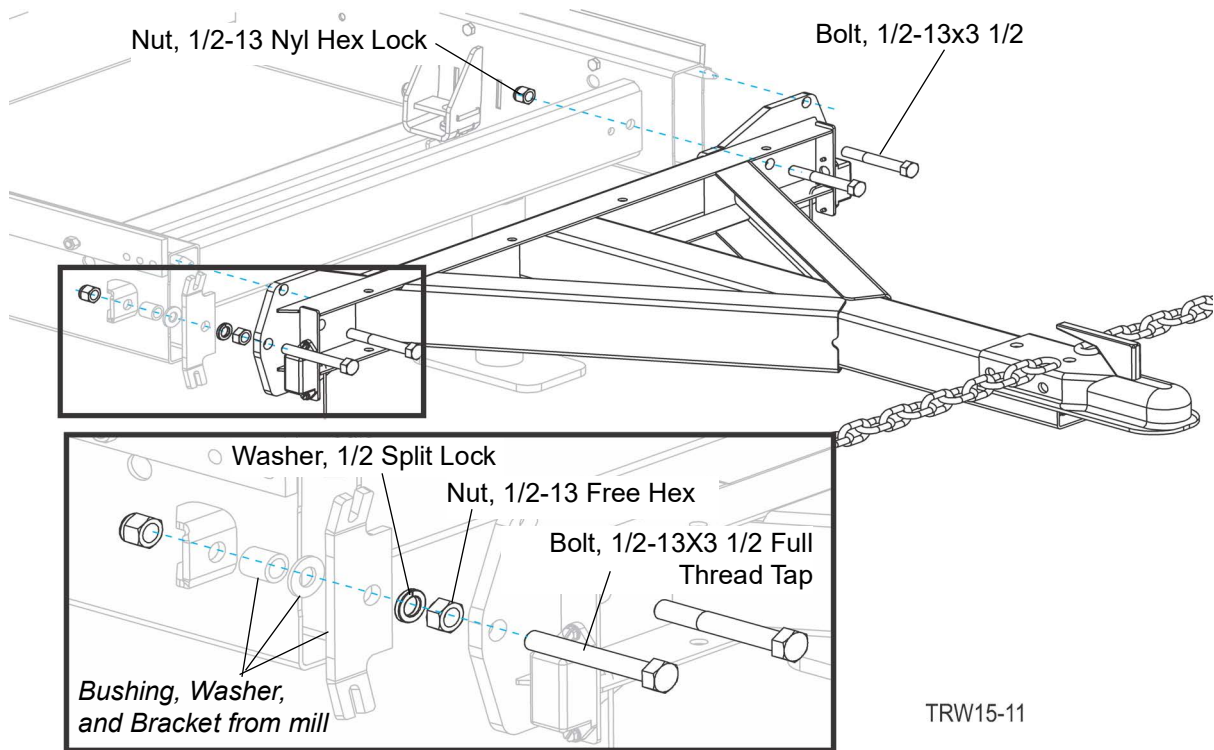

FIG. 2-11
4. Route the main wiring harness inside the sawmill main bed tube from the light bar to the front. See Fig. 2-11.
1. Tighten the tongue weldment, starting at the front rope bracket in order to assure the proper alignment. See Fig. 2-11.